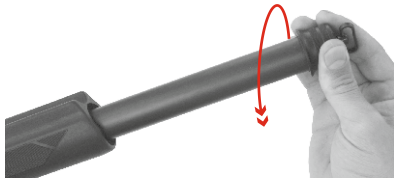

Fig.2
1. Unscrew the magazine cap from the front of the forend in a counter clockwise direction as shown in (Fig.2).